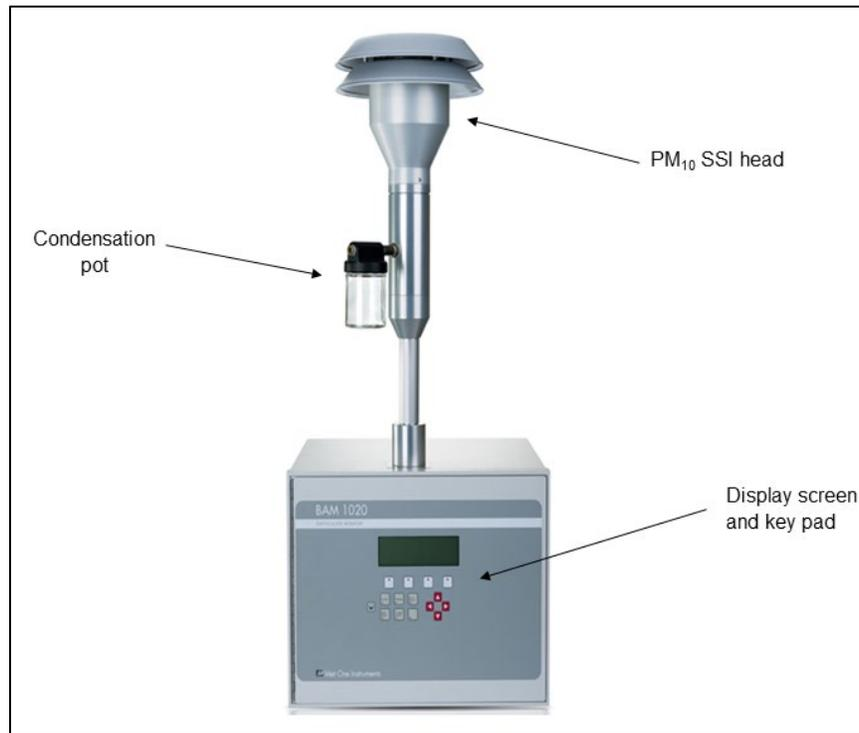

Figure AR-13. Met One BAM 1020
1. See Figure AR-13 for illustration of the BAM 1020.